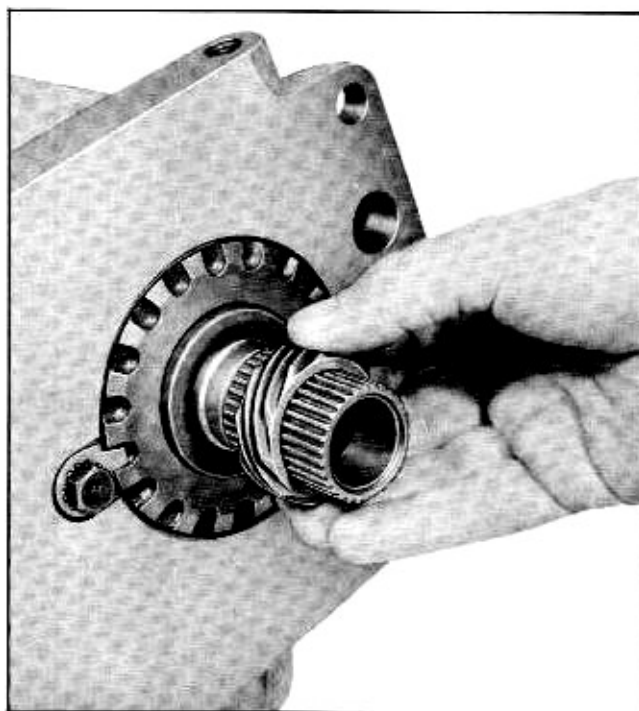

Fig. 4-21 Removing Governor Drive Gear
2. Pull off governor drive gear and spacers (automatic transmission only) (Fig. 4-21).